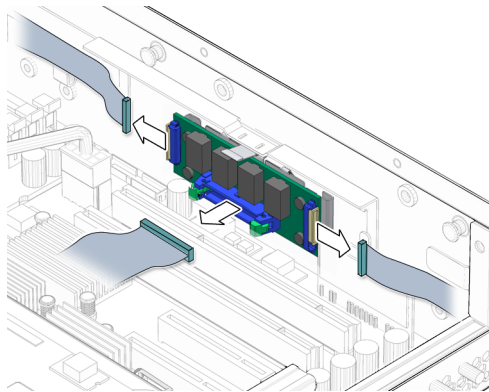

FIGURE 3-77 Disconnecting the Cables From the Alarm Board
2. Disconnect all three cables from the alarm board at their connectors (FIGURE 3-77).